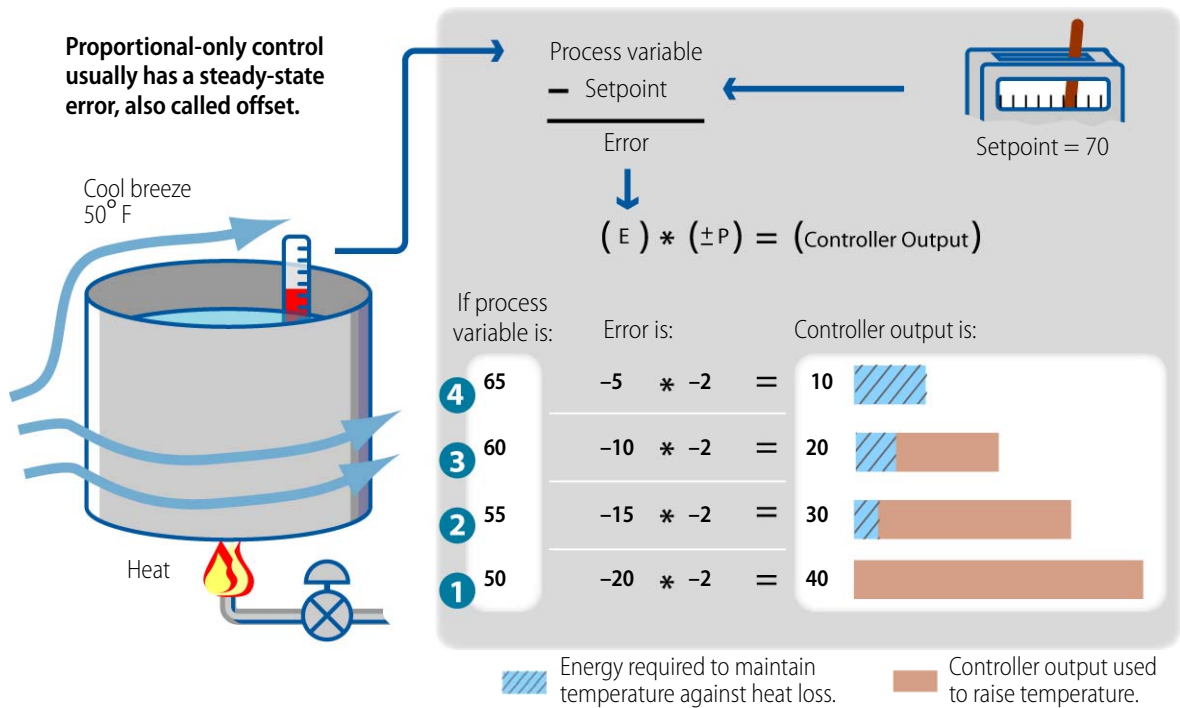
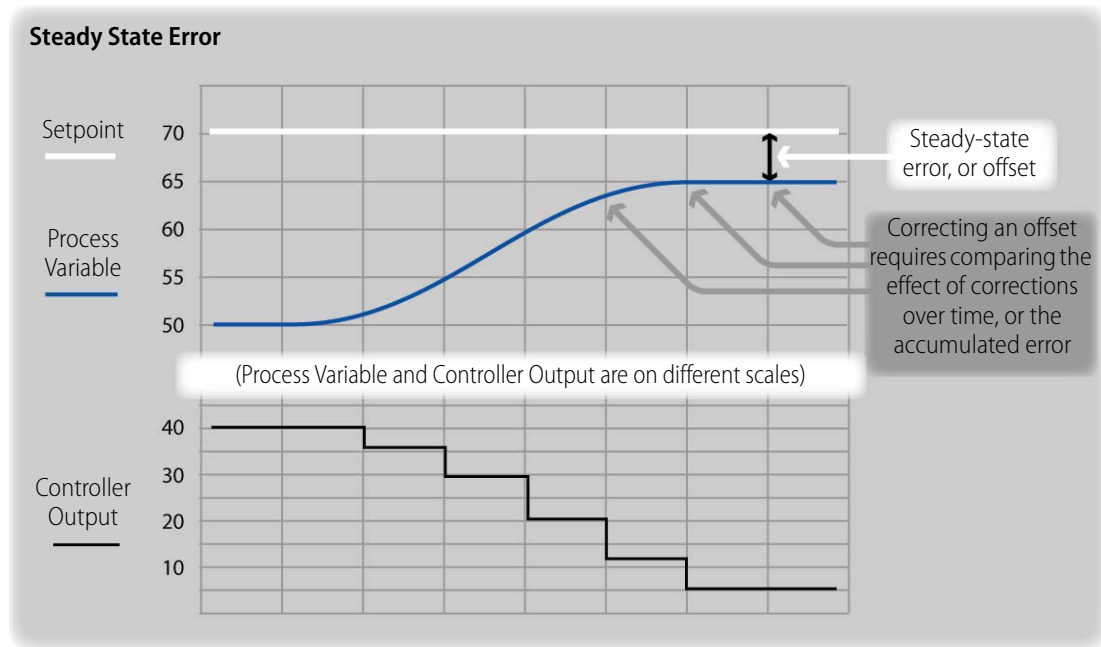

Figure 3-12: Proportional Control and Steady State Error
Figure 3-13: Steady-State Error in Proportional-Only Controller Output
Figure 3-12 depicts the proportional-only correction in one system with an arbitrary gain constant of -2 , chosen to keep the arithmetic simple. The tank is exposed to a 50°F breeze.
In calculation 1 (see ❶ in Figure 3-12), a 50°F input (process variable) generates an error of -20 , which is multiplied by -2 to create a controller output of 40 . All of the controller output goes toward raising the process variable to the setpoint.
A plot of the system shown in Figure 3-12 appears in Figure 3-13.